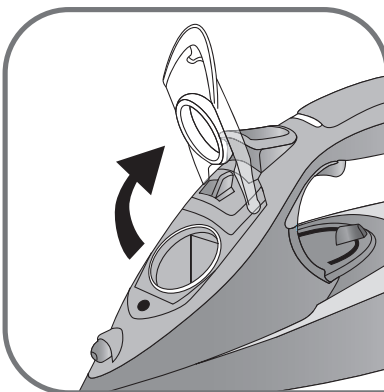

fig.2
- Open the tank cover – fig.2.